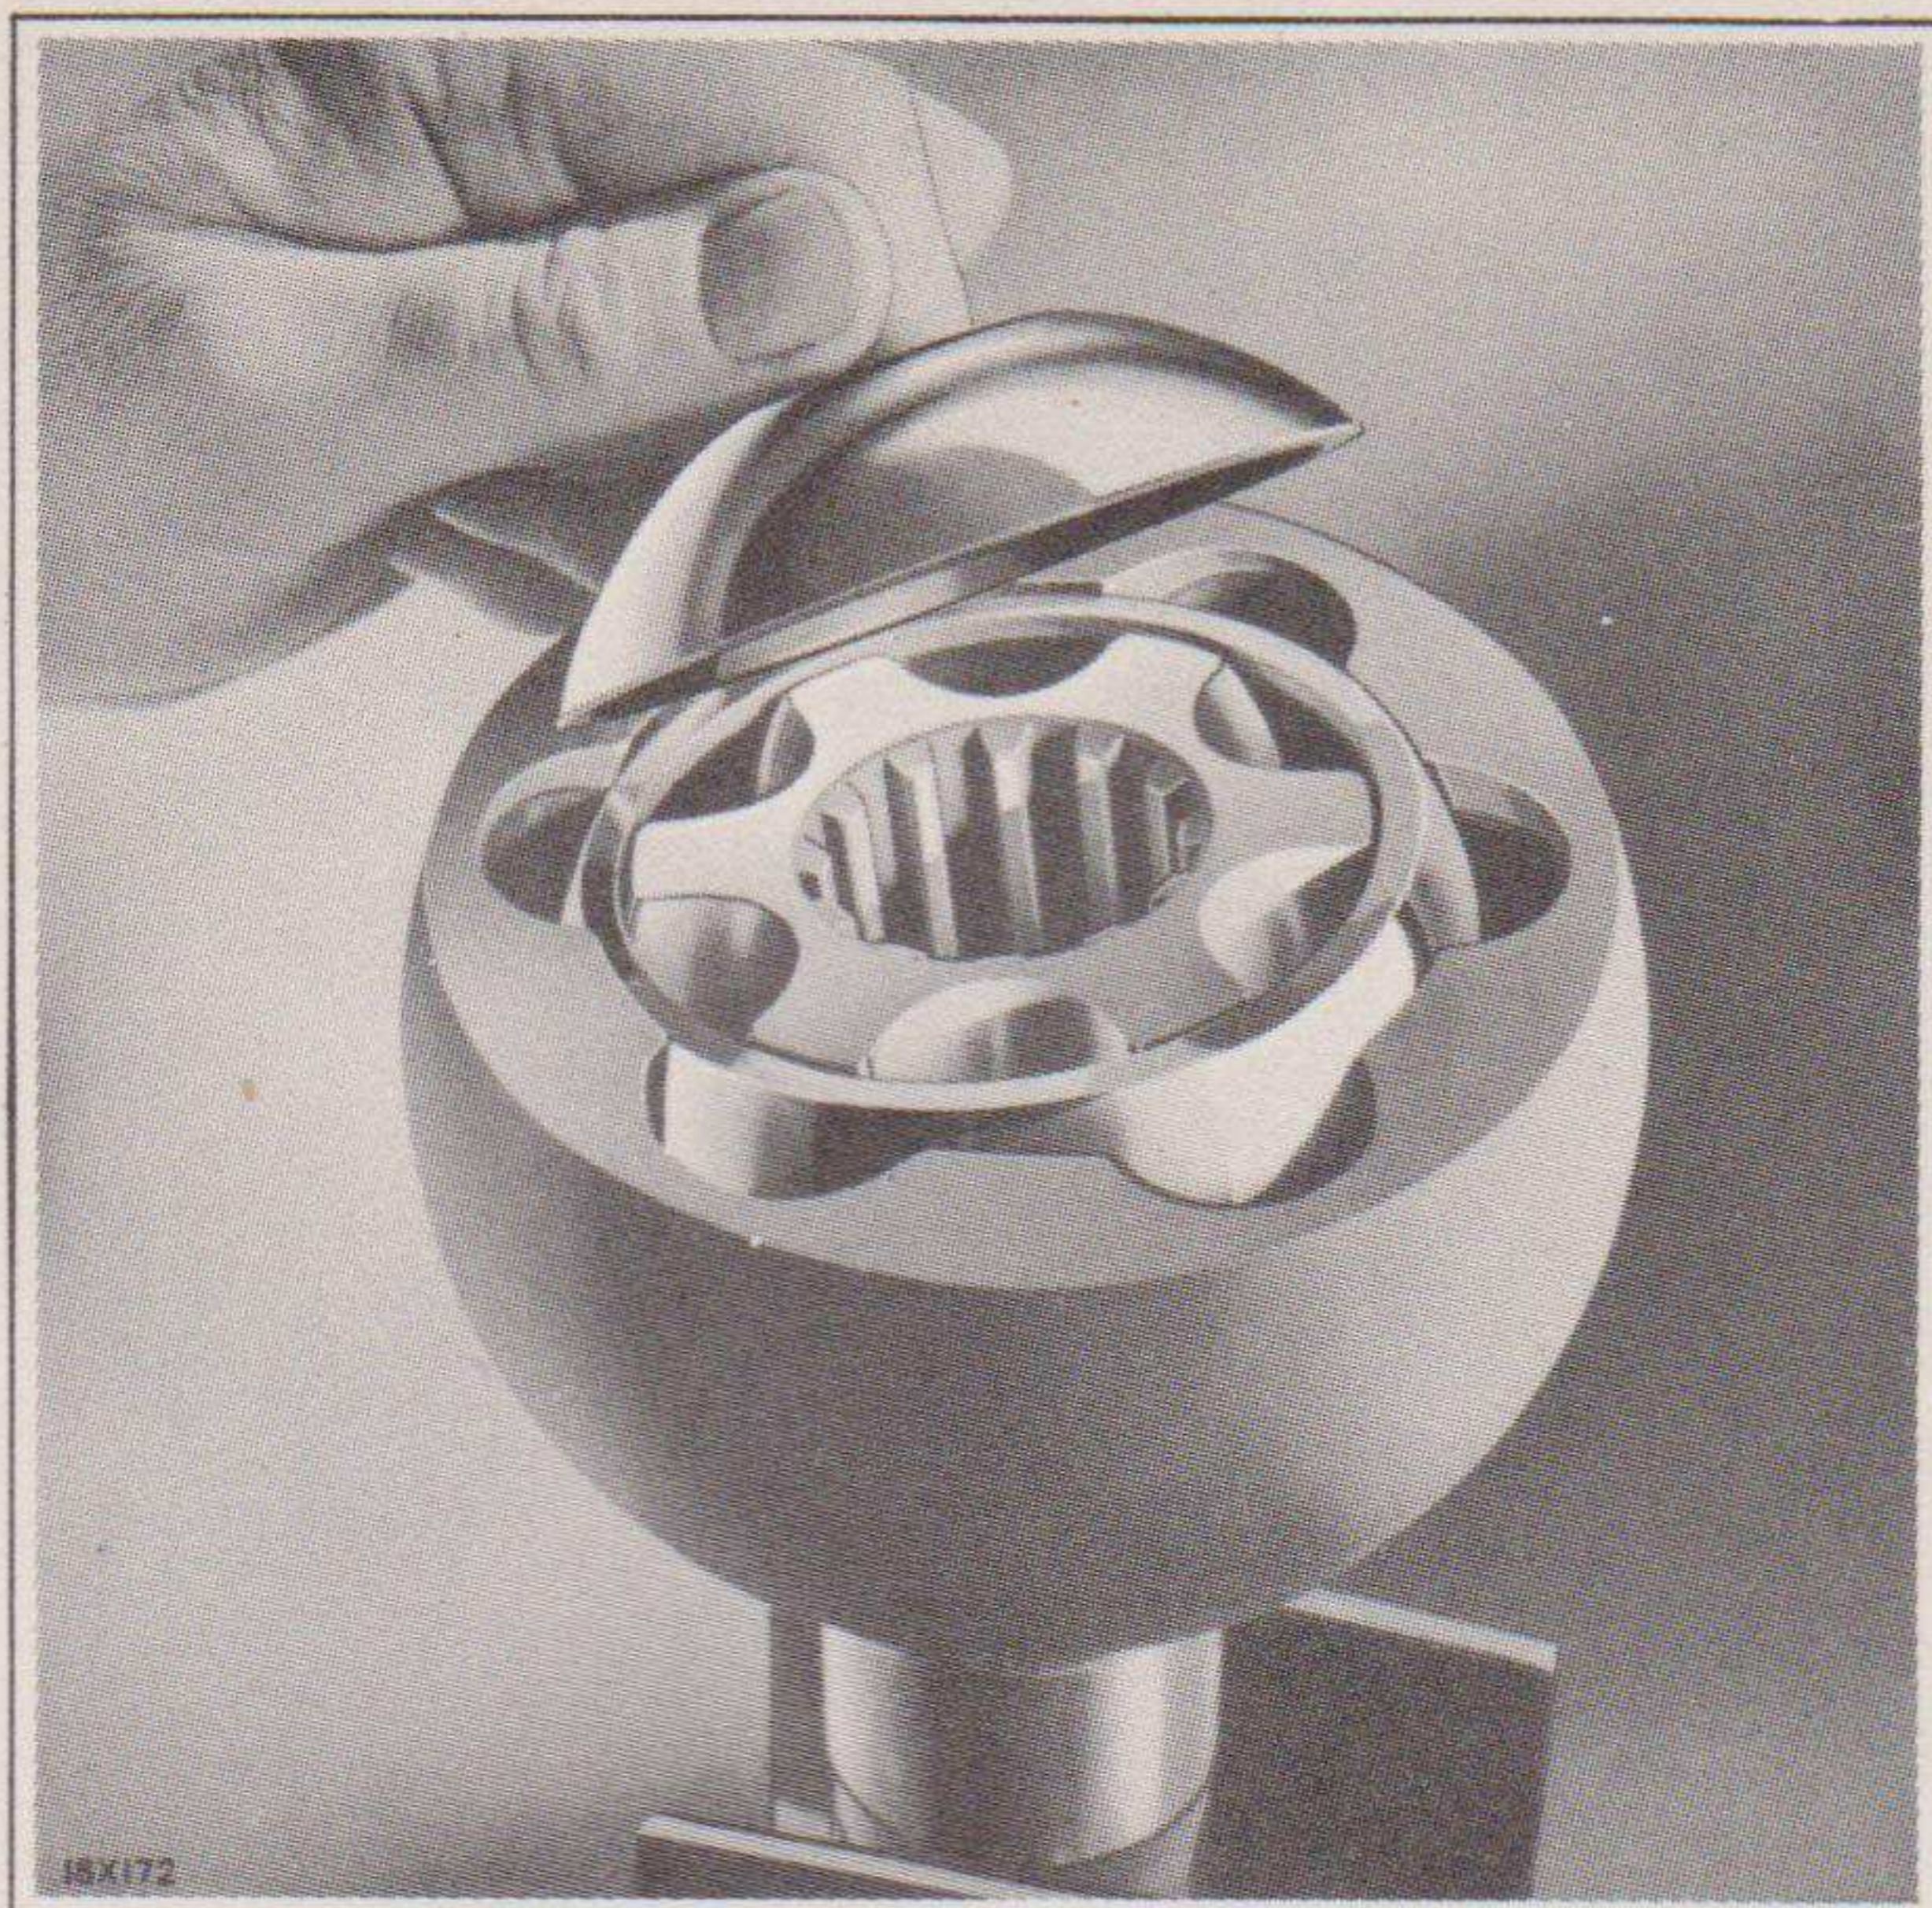

Fig. 24—Removing Universal Drive Pilot (Rzeppa)
- (g) Rotate the race and cage unit to bring the pilot at the top and remove the pilot as shown in Fig. 24.